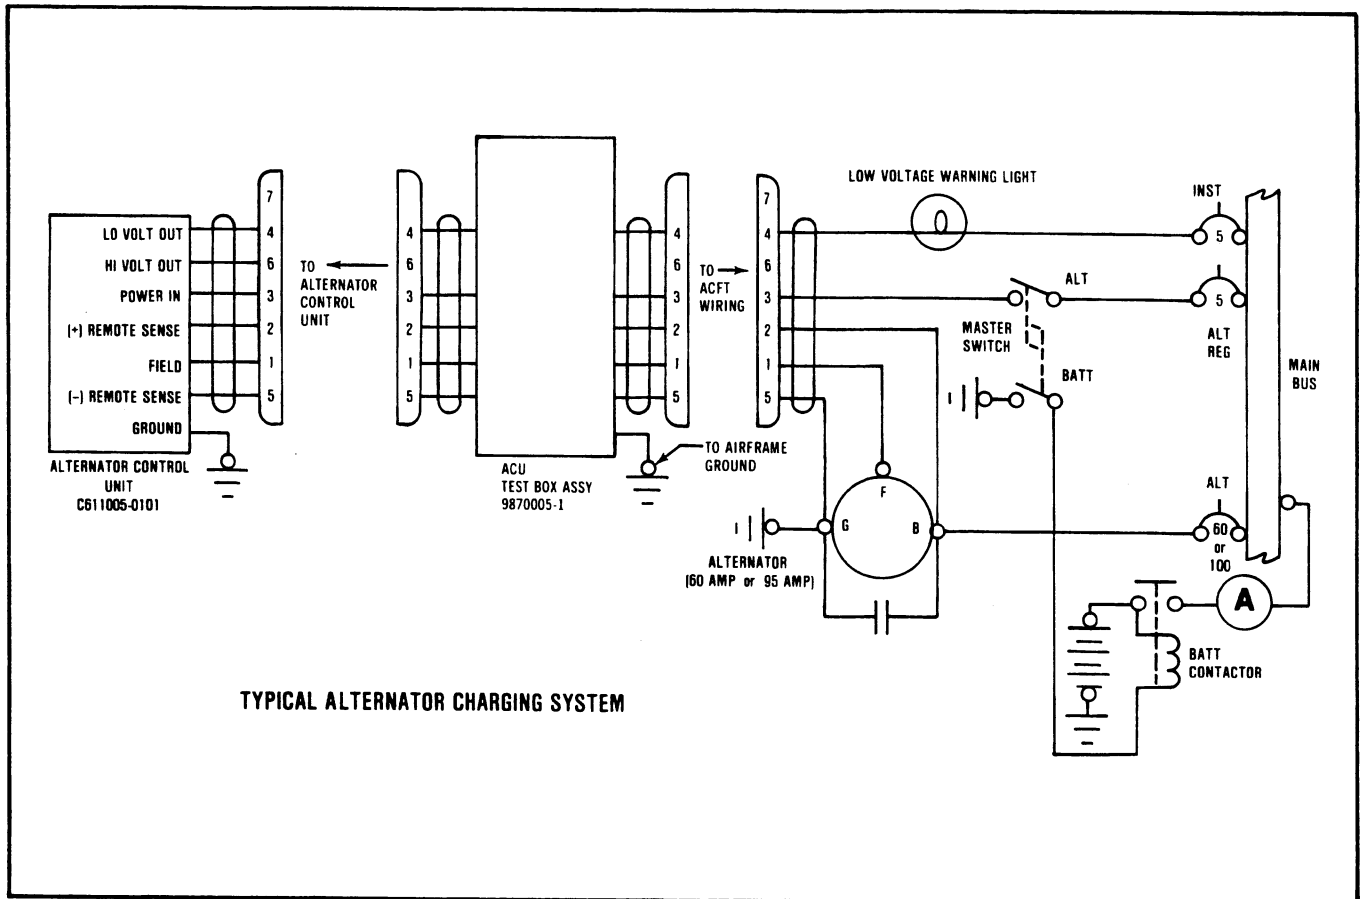

FIGURE 27
- Hook-up the ACU Tester Assembly between the ACU and aircraft connector, connect ground lead (alligator clip) to aircraft frame as shown on the wiring diagram in Figure 27.